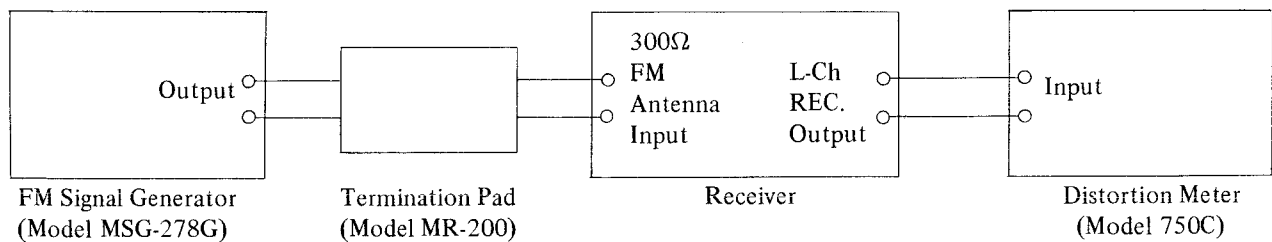

Fig. 12
- 1) Connect the various measuring instruments shown in Fig. 12.
- 1) Connect the various measuring instruments as shown in Fig. 12.